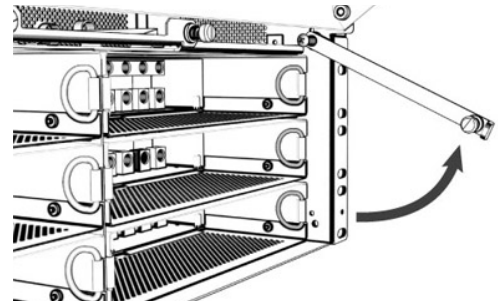

Figure 9. Module Retaining Bracket
Step 1. Lift up the front lid of the v30/30 to access the breaker module compartment. Loosen the captive screws on the circuit breaker module retaining brackets and then lift out of the way (see Figure 9).